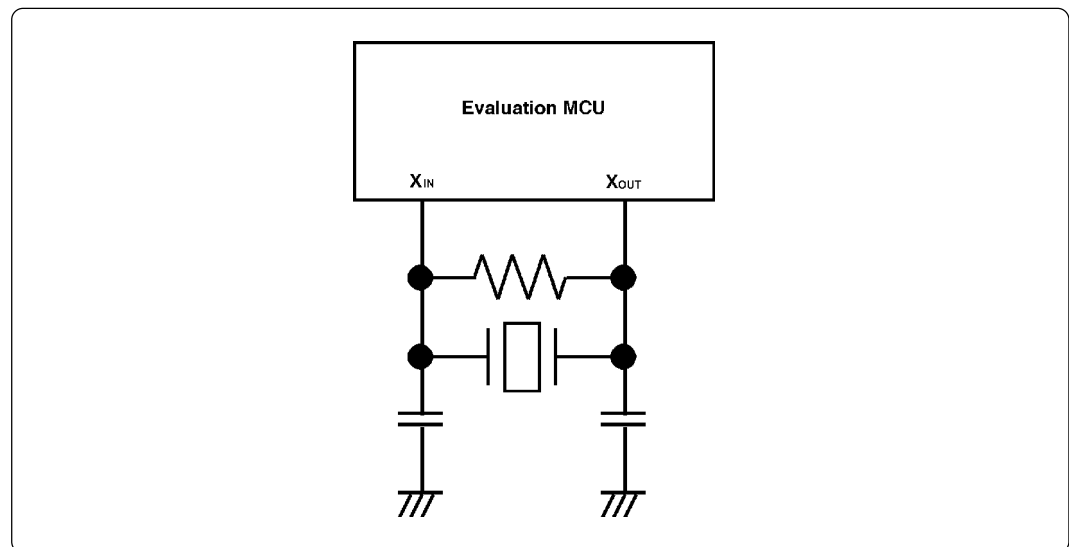

Figure 3.4 Circuit in which oscillation does not occur (same for X_{CIN} - X_{COUT})
- Make note of the fact that in the oscillator circuit shown in Figure 3.4 where a resonator is connected between the X_{IN} and X_{OUT} pins, oscillation does not occur because a flexible cable, pitch converter board and other devices are used between the evaluation MCU and the target system. It is same for sub-clock oscillator circuits (X_{CIN} and X_{COUT}).
(2) Changing the Internal Oscillator Circuit of Emulation Pod